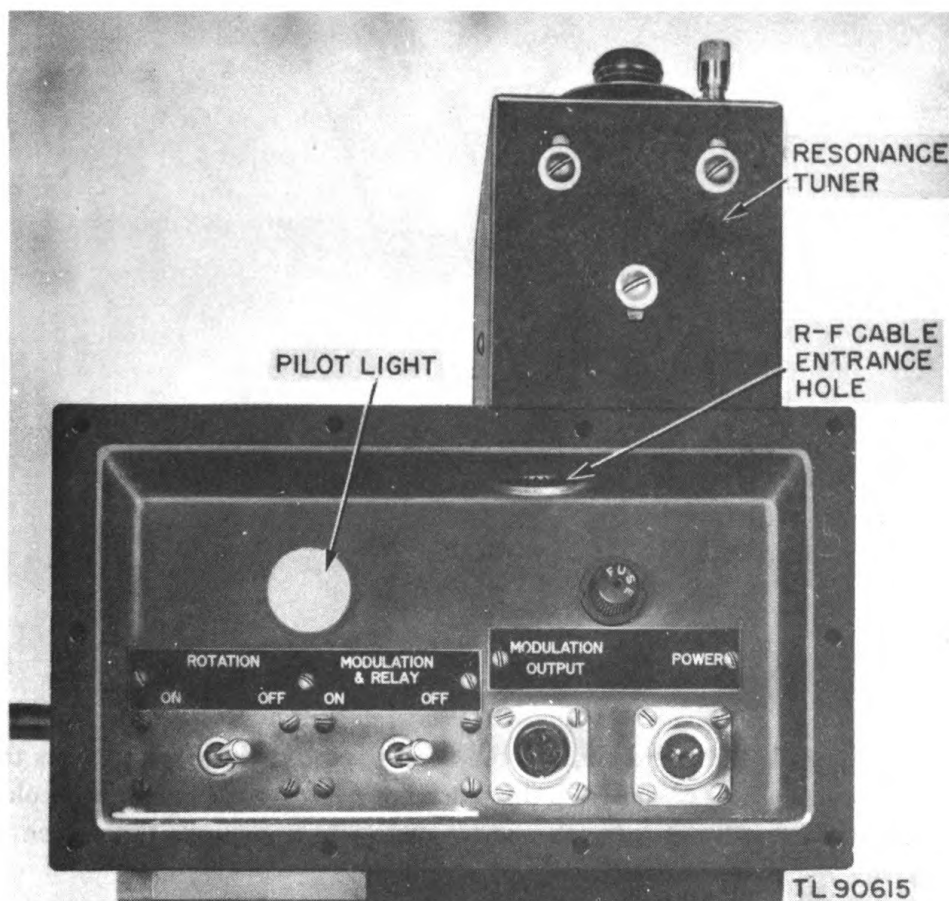

Figure 12. Control Panel PN-26.
*a.* The control panel (fig. 12), is recessed in the bottom of the antenna mount and is protected from the weather by a canvas flap. All external connections to the beacon are made through this panel. The r-f cable from the transmitter is attached to the resonance tuner through a large opening in the top of